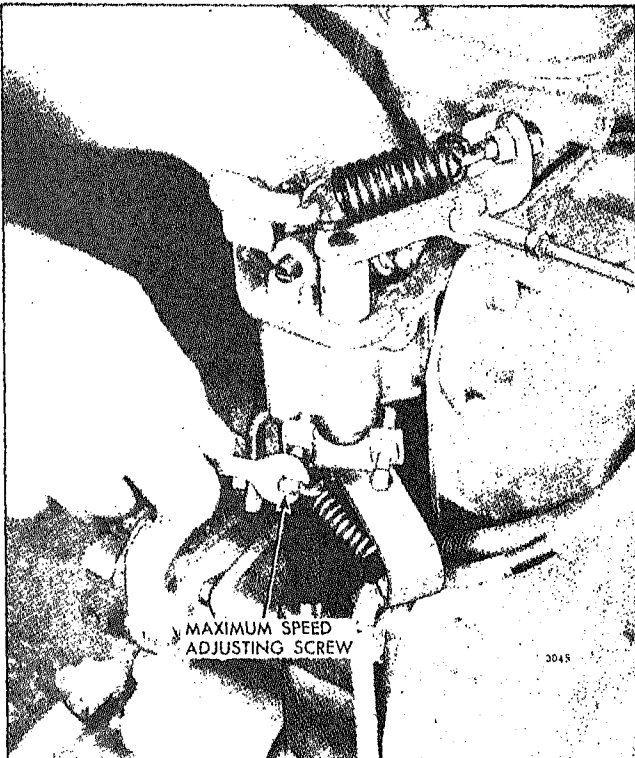

Fig. 5 - Adjusting Maximum No-Load Engine Speed
2. Loosen the lock nut and adjust the maximum speed adjusting screw (Fig. 5) until the required no-load speed is obtained.